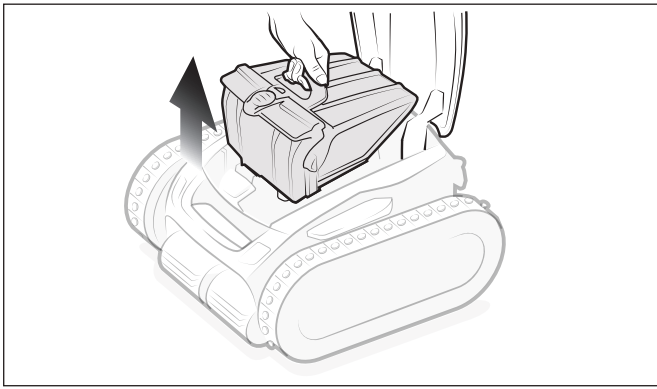

Figure 14. Remove Filter Canister Assembly
4. Remove the filter canister assembly from the body (3) as shown in Figure 14.